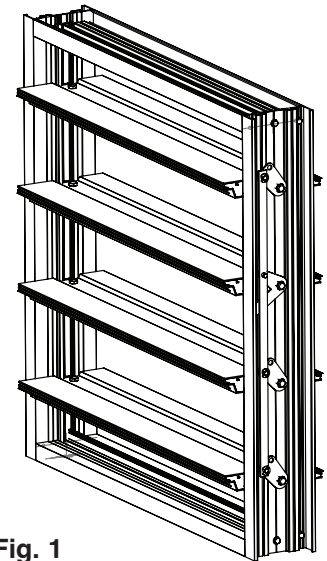

Fig. 1
- A. Dampers are supplied standard without mounting holes (Fig. 1). Drill or punch as required.